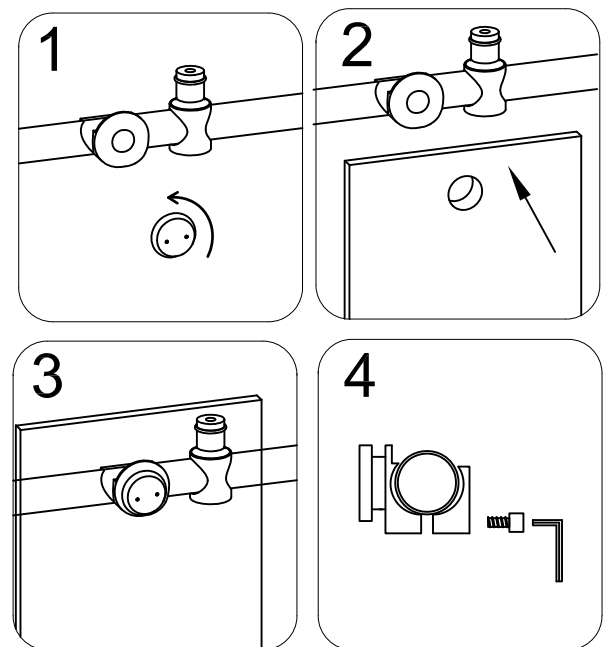

Fig. 15
Secure the Small Fixed Glass (19) to Small Fixed Glass Bolt Assembly following steps 1-4 in Fig.15.
See Fig.15 for details.